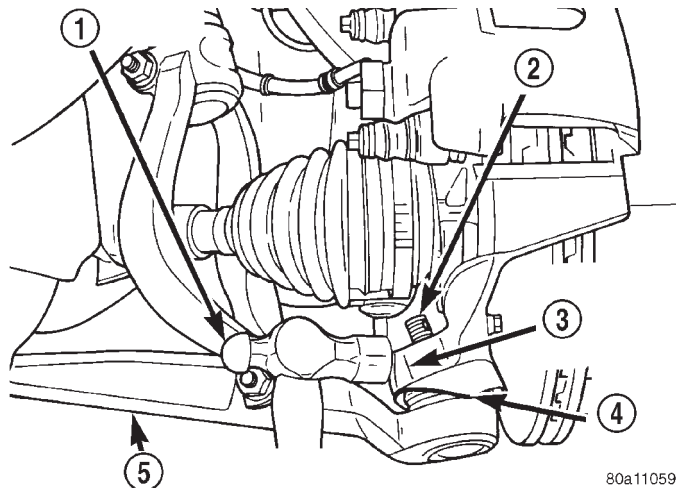

Fig. 46 Separating Lower Ball Joint Stud From Steering Knuckle
(6) Turn steering knuckle so the front of the steering knuckle is facing as far outboard in the wheel opening as possible (Fig. 46). Using a hammer, strike steering knuckle boss (Fig. 46) until steering knuckle separates from the lower ball joint. **When striking**